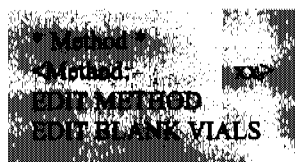

Figure 4.13. Method menu
1. Press [Method]. The Method menu displays (Figure 4.13).